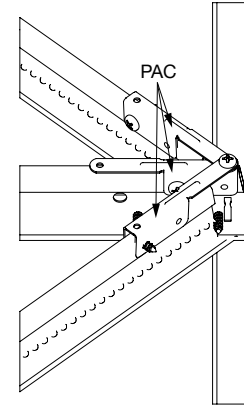

Fig 12
3.3 Perimeter Angle Clip (PAC) (Fig 12)